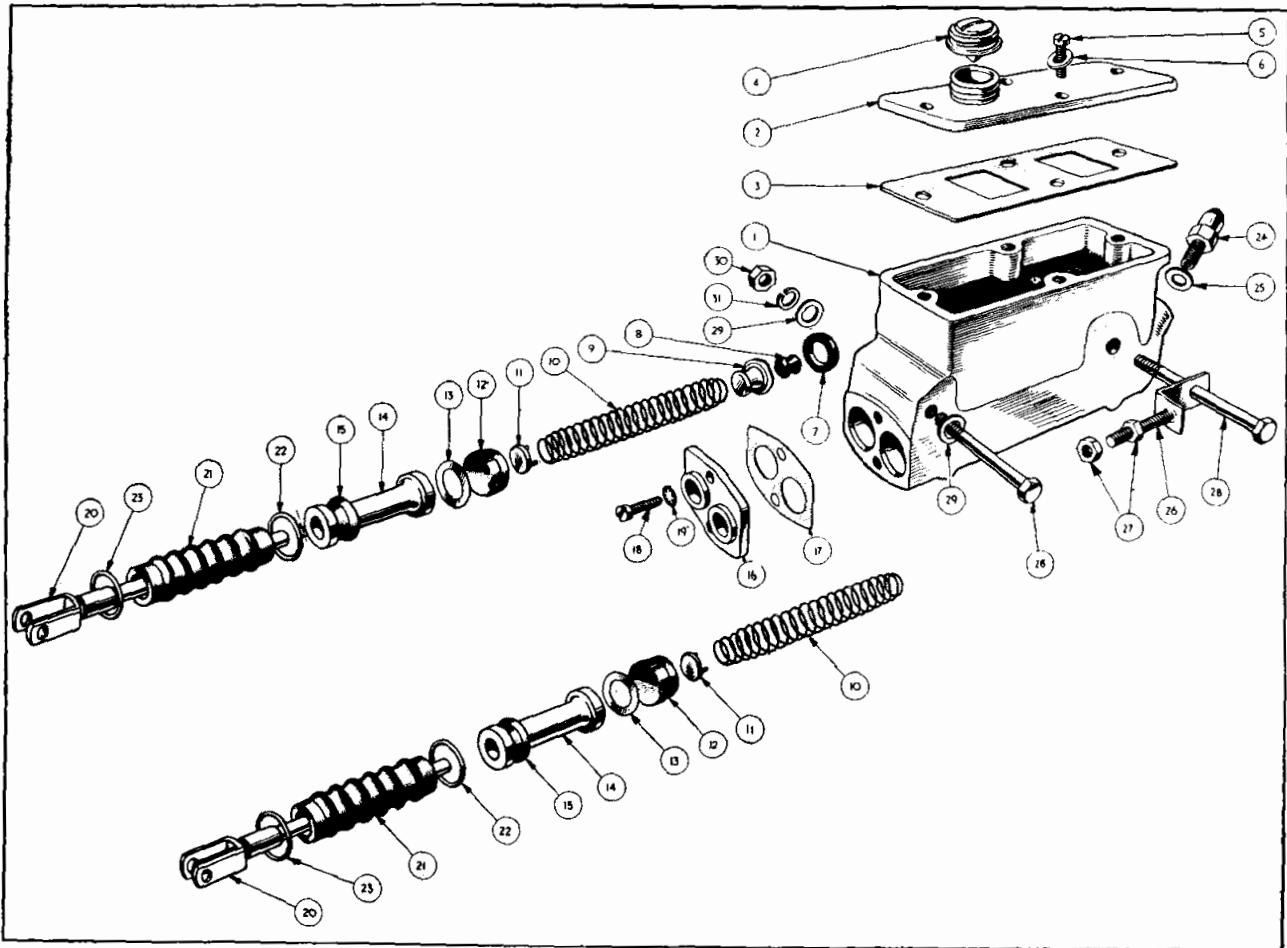

Fig. 3 **Exploded view of Twin Bore Master Cylinder.**
21. TO DISMANTLE THE MASTER CYLINDER (Fig. 3)
22. TO ASSEMBLE THE MASTER CYLINDER (Fig. 3)
NOTATION FOR Fig. 3